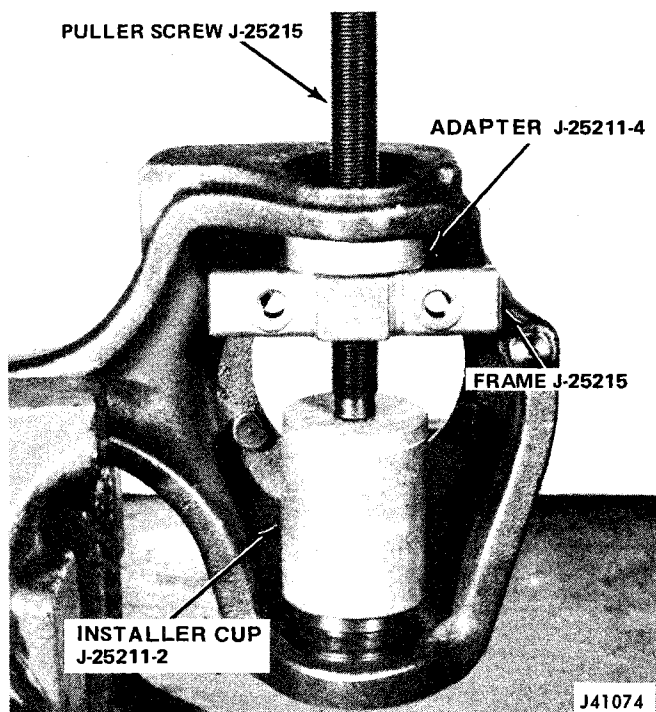

Fig. 2F-10 Lower Ball Stud Installation
- (1) Install both arms on Puller J-25215 (fig. 2F-11).
- (2) Position replacement upper ball stud in steering knuckle.